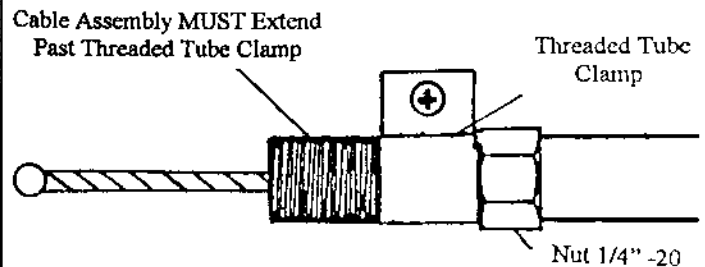

FIGURE 27
2. After the threads have been formed, screw the **Threaded Tube Clamp** onto the **Cable Assembly**. (Figure 27)